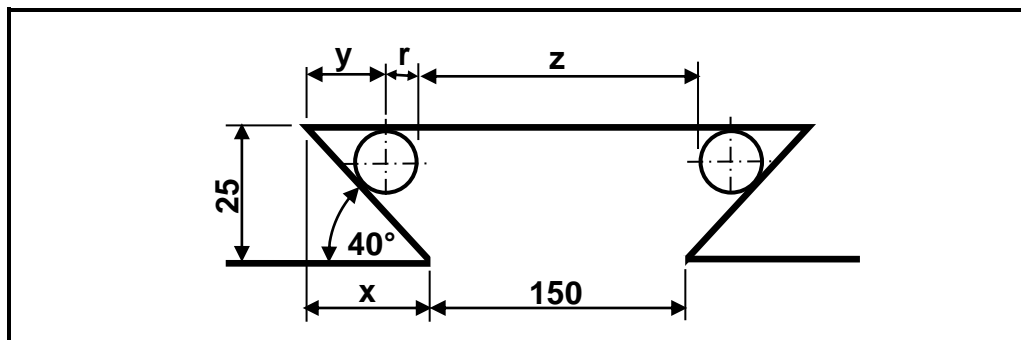

FIGURE 6.4
- 6.4 FIGURE 6.4 below shows a dovetail groove. Calculate distance **Z** between the rollers in the figure. Ø10 mm rollers are used for the measuring.